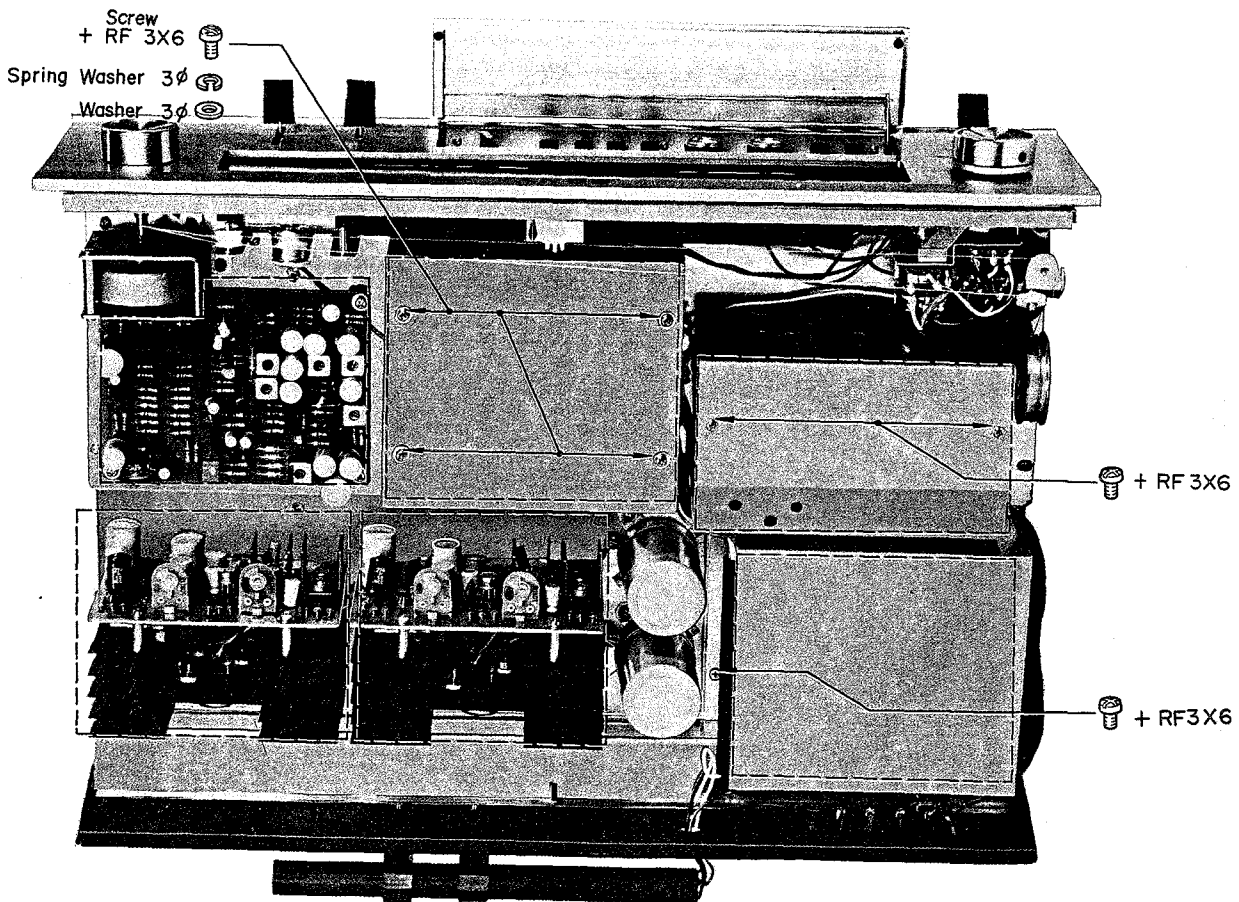

Fig. 2-6
- (b) To remove the shield cover for the Front End section, remove two Phillips-head screws (+ RF 3φx6) and lift off. See Fig. 2-6.
section, remove four Phillips-head screws (+ RF 3φx6) and lift off the shield cover. See Fig. 2-6.